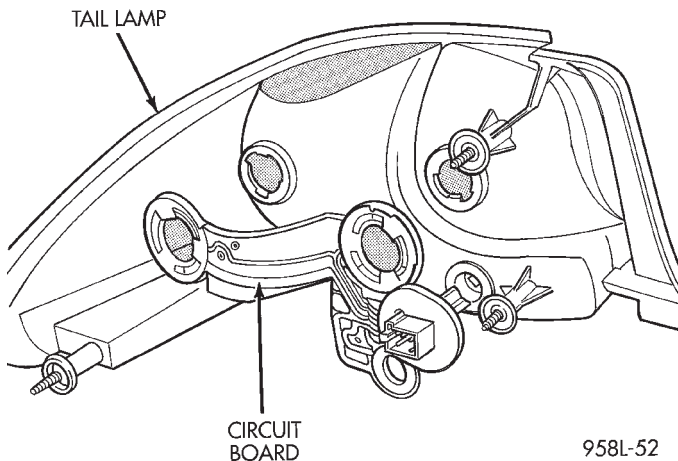

Fig. 7 Tail Lamp Circuit Board
- (1) Remove tail lamp.
- (2) Remove bulb sockets.
- (3) Remove circuit board from tail lamp (Fig. 7).